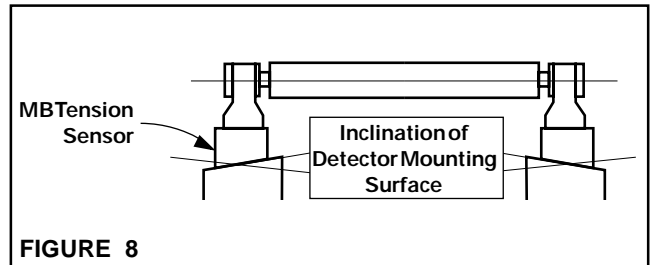

FIGURE 8
- Mounting surfaces must be parallel to one another. Self centering Pillow Block Bearings are required to take up any variations in parallelism (See Figure 8).